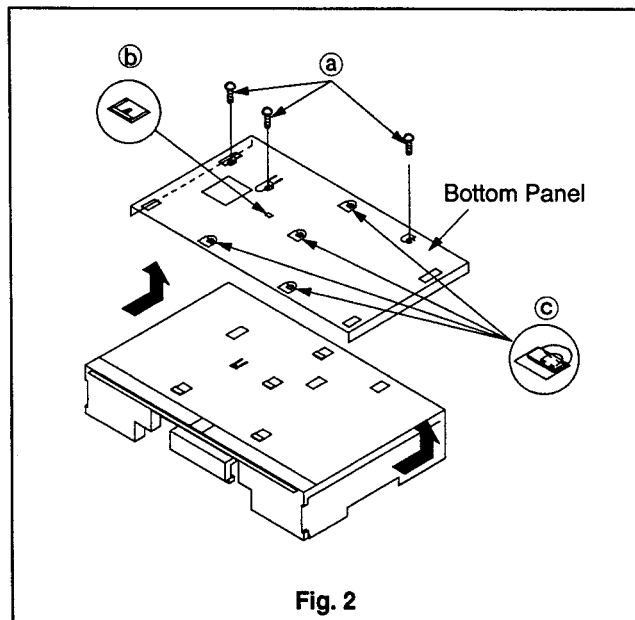

Fig. 2
1. Turn the set upside down as shown in Fig. 2.
2. Remove the three fastening screws (a) shown in Fig. 2.